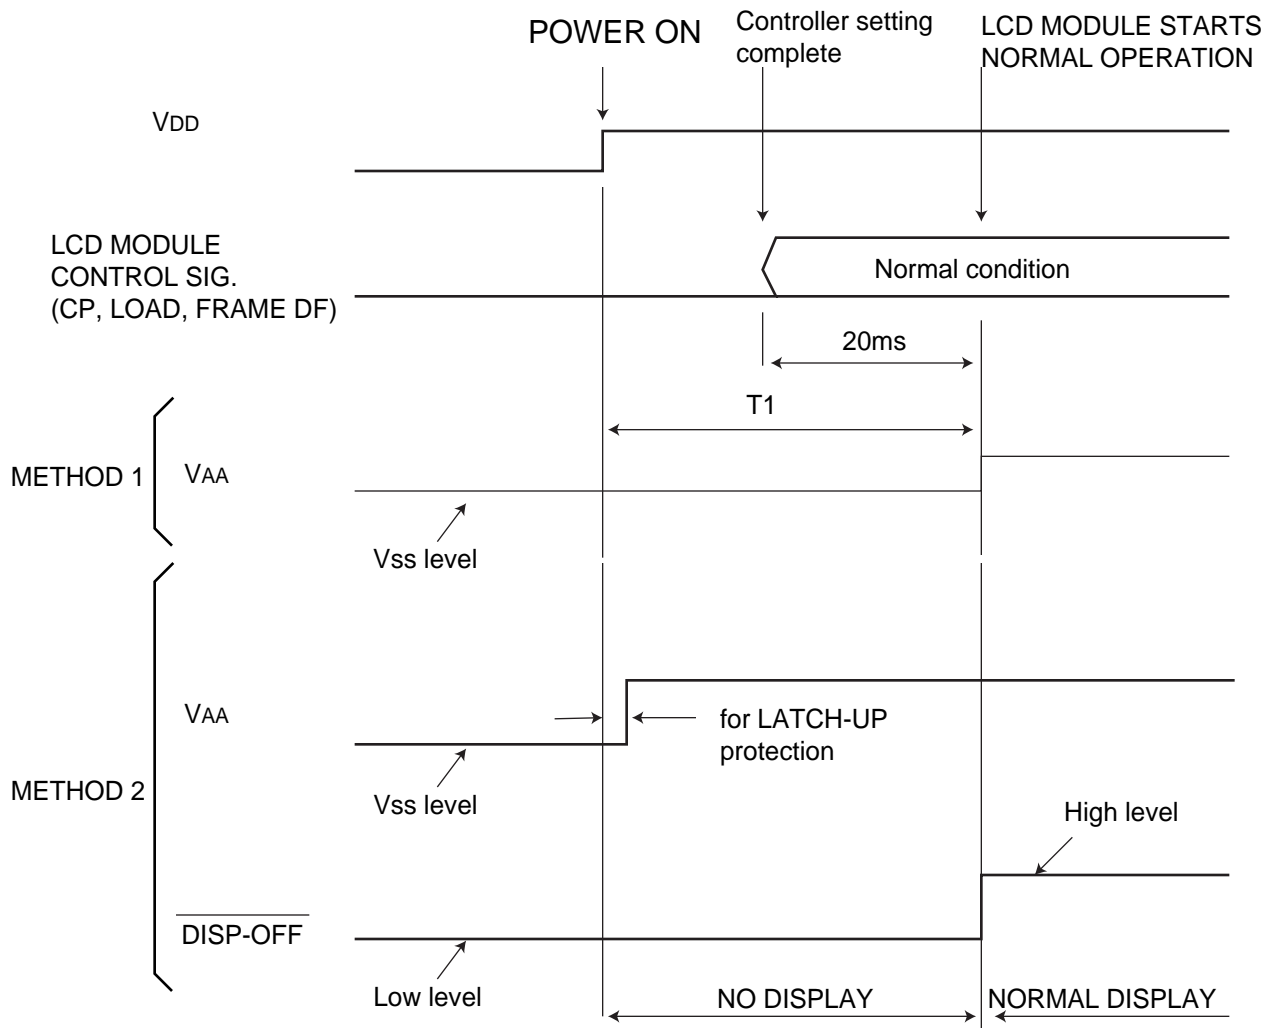

Fig. 12-2
- T1 : A time from turning on power to drive circuit in LCD module starts its normal operation. (See Fig. 12-2 on the succeeding page.)
Therefore, there is possibility of DC voltage being applied to LCD panel in a period of T1 shown in Fig. 12-2 below.